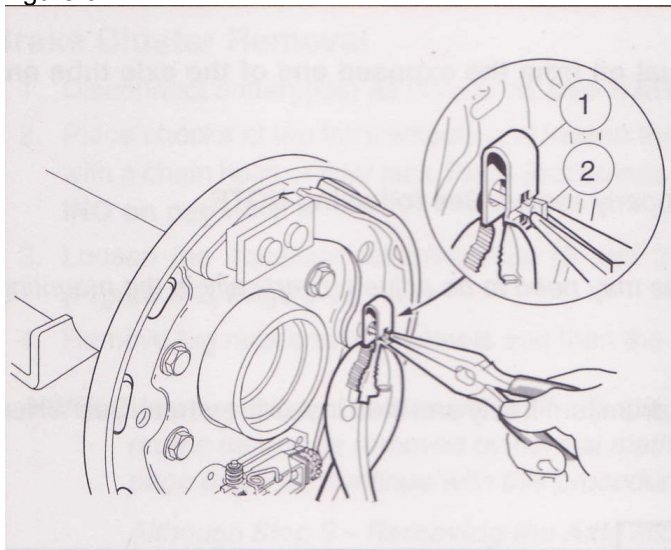

Figure 6-13
2. Install the shoe retainer clip, using pliers to compress the clip (1) while turning the clip retaining tab (2) into position (Figure 6-13).